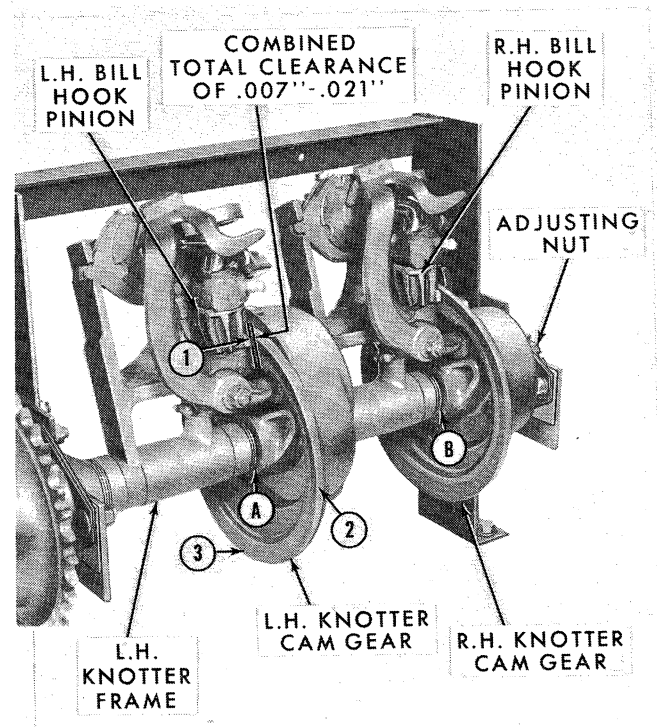

Figure 96
3. Insert a screwdriver or other appropriate tool at point "A", Figure 96. Apply lateral pressure with the screwdriver and spread the left-hand knotter cam gear until the flat of the right-hand bill hook pinion contacts the machined face of the right-hand knotter cam gear.
4. While maintaining slight lateral pressure with the screwdriver or other tool, measure the distance between the flat of the left-hand bill hook pinion and the machined face of the knotter cam gear at locations (1), (2), and (3), Figure 96. The dimensions represent the combined bill hook-to-cam gear clearances for both knotter assemblies and should not be less than .007" nor more than .021" at any of the three locations.
5. Repeat the check on the right-hand knotter assembly inserting the screwdriver or other tool at point "B", Figure 96. Spread the right-hand knotter frame from the right-hand knotter cam gear until the left-hand knotter cam gear contacts the flat of the left-hand bill hook pinion. The dimensions should be the same as those taken on the left-hand knotter assembly.
pin from the adjusting nut, Figure 96, and tighten as necessary to obtain the required .007" – .021" clearance. Each slot of the nut will increase or decrease the clearance by .014". Reinstall the cotter pin through the nut and shaft.
IMPORTANT: Do not turn the adjusting nut more than finger tight. Excessive tightening may cause binding between the cam gears and bill hook pinions, resulting in premature wear. If a total bill hook pinion-to-cam gear clearance of .007" – .021" cannot be obtained by means of the adjusting nut, it may be necessary to remove one or more of the spacers at points "A" and/or "B", Figure 96, to enable the cam gears to be adjusted to the bill hook pinions. This will require removing the knotter assembly from the baler and restacking it as outlined in the procedure below..